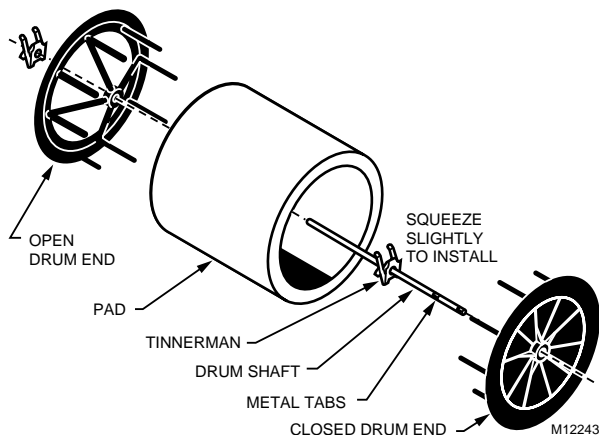

Fig. 4. Assembling drum and humidifier pad.
22. Assemble the drum and humidifier pad. See Fig. 4.